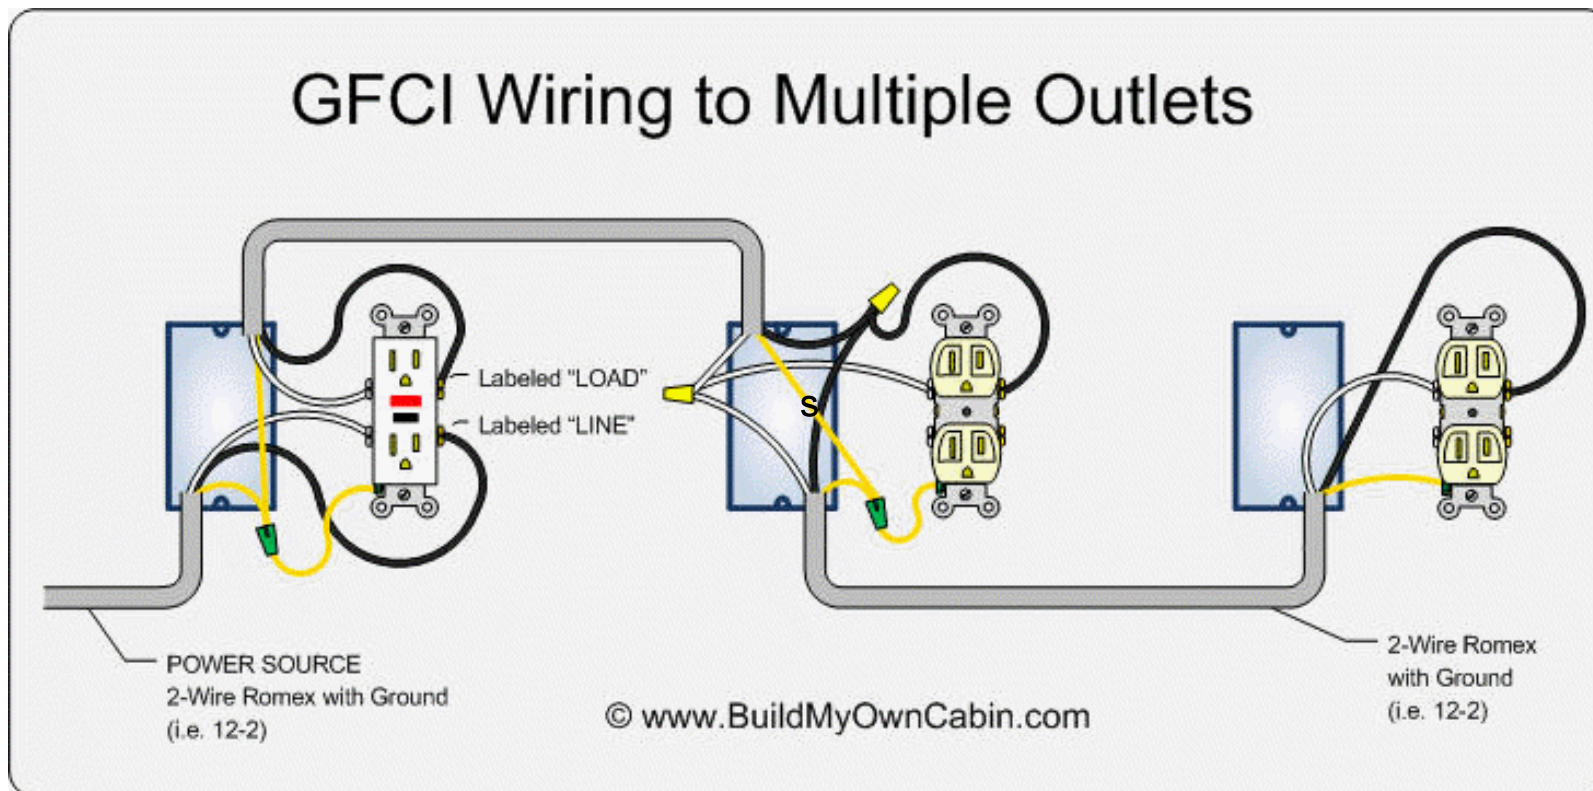

Figure 2: Wiring diagram for a multi outlet GFCI-connected circuit.
3. Build the GFCI circuit. Figure 2 shows the correct method for wiring a GFCI outlet in a circuit containing multiple outlets. NOTE: The image does not show the grounding of the receptacle boxes. You are required to ground them.